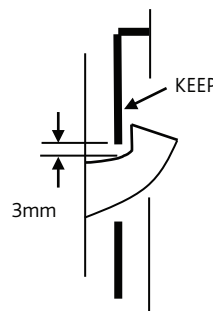

Fig 3.
- Hooks should be well engaged into their keep, nominal clearance 3mm from hook throat to keep aperture (measured vertically when locked) - **Fig 3**.